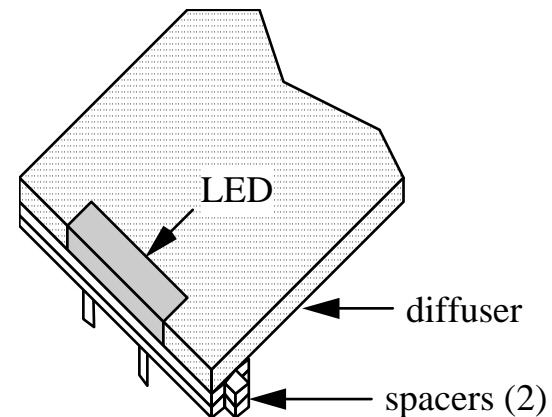

Figure 5-9
- Place two 3/4" (19 mm) long spacers over the leads of each backlight LED as shown in Figure 5-9.